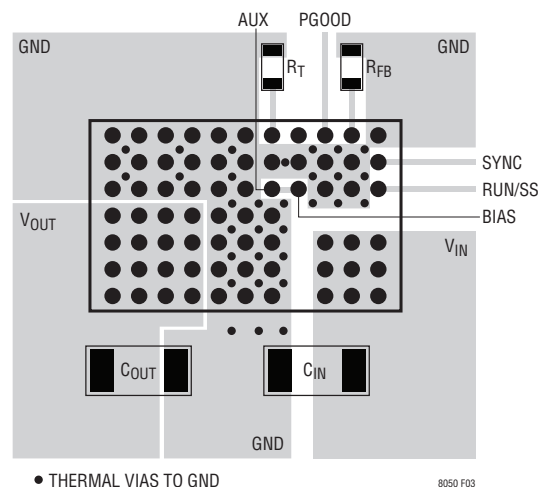

Figure 3. Layout Showing Suggested External Components, GND Plane and Thermal Vias
minimize EMI and ensure proper operation. Even with the high level of integration, you may fail to achieve specified operation with a haphazard or poor layout. See Figure 3 for a suggested layout. Ensure that the grounding and heat sinking are acceptable.
6. For good heat sinking, use vias to connect the GND copper area to the board's internal ground planes. Liberally distribute these GND vias to provide both a good ground connection and thermal path to the internal planes of the printed circuit board. Pay attention to the location and density of the thermal vias in Figure 3. The LTM8050 can benefit from the heat-sinking afforded by vias that connect to internal GND planes at these locations, due to their proximity to internal power handling components. The optimum number of thermal vias depends upon the printed circuit board design. For example, a board